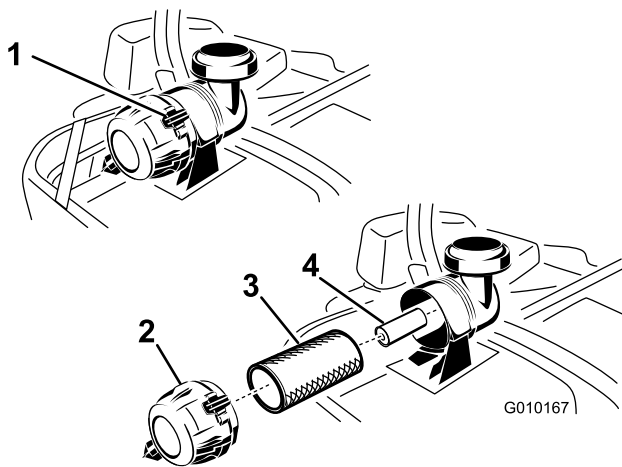

Figure 42
3. Push down to release the retaining clamps on the air cleaner and pull the air cleaner cover off of the air cleaner body (Figure 42).
5. Gently slide the primary filter out of the air cleaner body (Figure 42). Avoid knocking the filter into the side of the body.
- Do not clean the paper filter, replace it (Figure 42).
- If the secondary filter is being replaced, carefully slide it into the filter body (Figure 42).
- Carefully slide the primary filter over the secondary filter (Figure 42). Ensure that it is fully seated by pushing on the outer rim of the filter while installing it.
- Install the air cleaner cover with the breather cap down and rotate so the retaining clamps lock the cover in place (Figure 42).